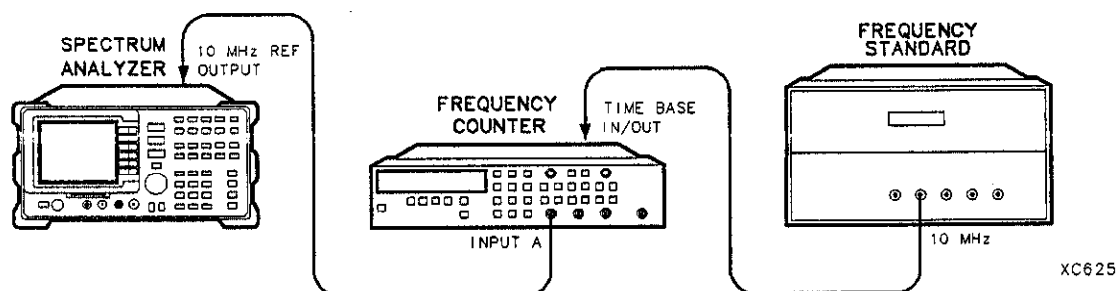

Figure 1-2. 10 MHz Reference Accuracy Test Setup, Option 004
1. Allow the spectrum analyzer to sit with the power off for at least 60 minutes before proceeding. Connect the equipment as shown in Figure 1-2.